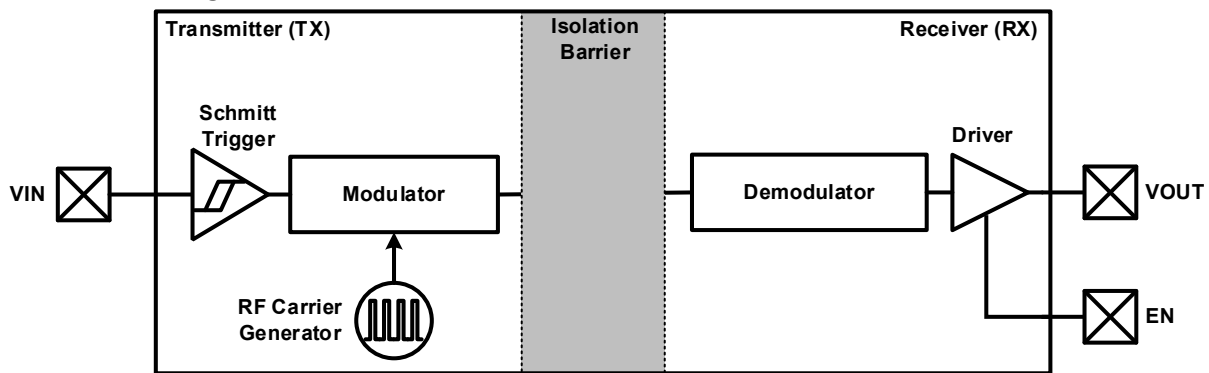
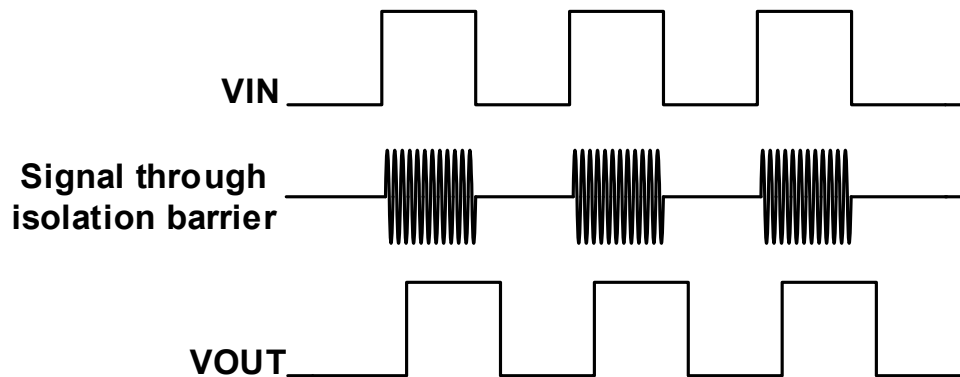

Figure 9-1 Functional Block Diagram of a Single Channel
Figure 9-2 Conceptual Operation Waveforms of a Single Channel
The CA-IS38xx family of devices use a simple ON-OFF keying (OOK) modulation scheme to transmit signal across the SiO₂ isolation capacitors that provide a robust insulation between two different voltage domain and act as a high frequency signal path between the input and the output. The transmitter (TX) modulates the input signal onto the carrier frequency, that is, TX delivers high frequency signal across the isolation barrier in one input state and delivers no signal across the barrier in the other input state. Then the receiver rebuilds the input signal according to the detected in-band energy. If the ENx pin is low then the output goes to high impedance state and will be pulled up to V_{DDO} (CA-IS383xH) or pull down to the corresponding GND (CA-IS383xL). This simple architecture offers a robust isolated data path and requires no special considerations or initialization at start-up. The capacitor-based signal path is fully differential to maximize noise immunity, which is also known as common-mode transient immunity. Advanced circuitry techniques are applied for better EMI introduced by the carrier signal and IO switching. The capacitively-coupled architecture provides much higher electromagnetic immunity compared to the inductively-coupled one. And OOK modulation scheme eliminates the missing-pulse error that occurs in the pulse modulation method. A simplified functional block diagram and conceptual operation waveforms of a single channel is shown in Figure 9-1 and Figure 9-2.